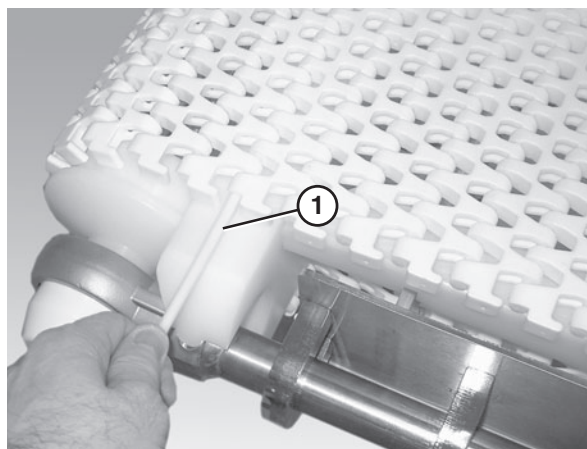

Figure 44
5. Insert the belt rod (**Figure 44, item 1**).